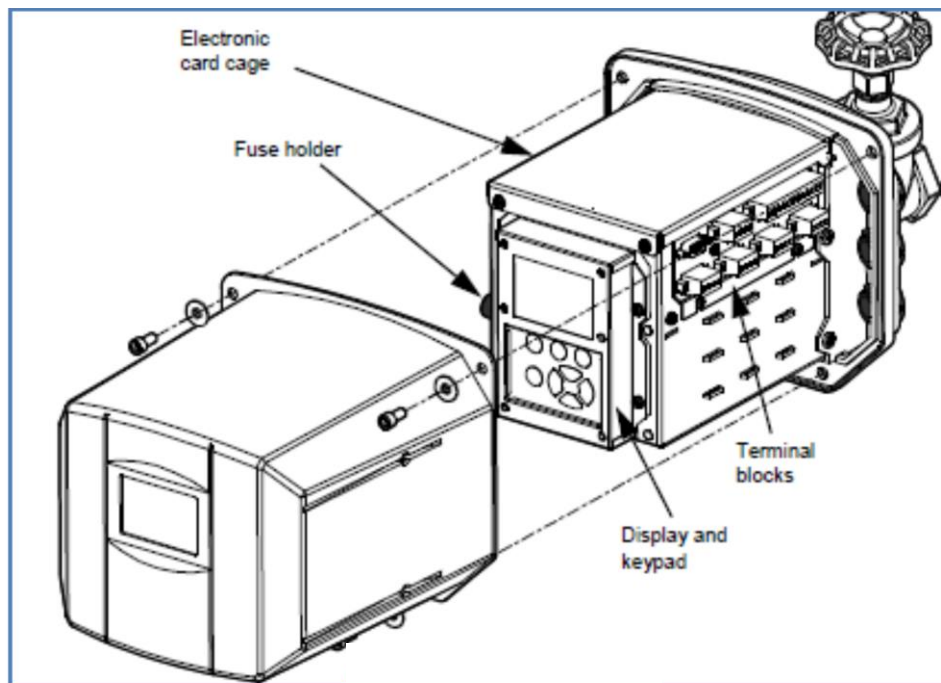

Figure 3-4: Interior of the Hydran M2-X
1. **Cover:** The cover provides mechanical and weather protections for the sensor and electronic card cage (see Figure 3-4).
The user interface (display and keypad), terminal blocks, fuse holder and connectors are all mounted on the exterior of the electronic card cage (see Figure 3-4).